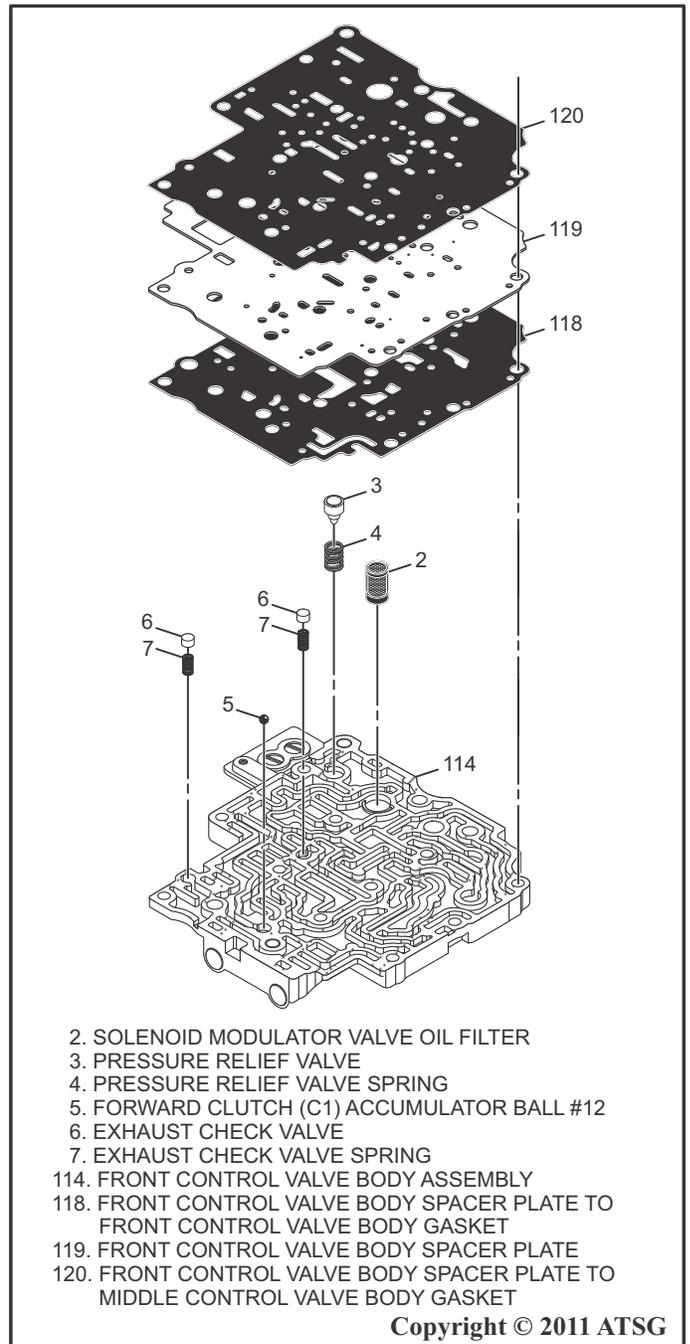

Figure 173
49. Install the solenoid modulator valve filter into the front control valve body as shown in Figure 173.
50. Install the pressure relief valve spring and the pressure relief valve into the front control valve body as shown in Figure 173.
51. Install the two exhaust check valve springs and the check valves and the (C1) accumulator ball #12 into the valve body as shown in Figure 173.
52. Install the front control valve body spacer plate to front control valve body gasket, the spacer plate and the front control valve body spacer plate to middle control valve body gasket as shown in Figure 173.